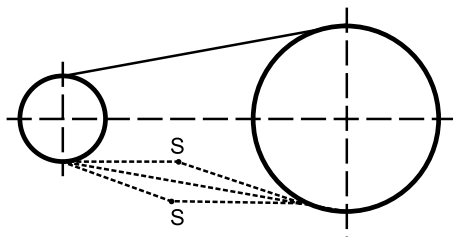

Fig. 8. Chain tension.
Generally, the slack of a roller chain should be on the lower side (see fig. 8). Adequate slack (SS) is about 4 percent of the span for normal drives. In the following cases, the slack should be about 2 percent of the span: